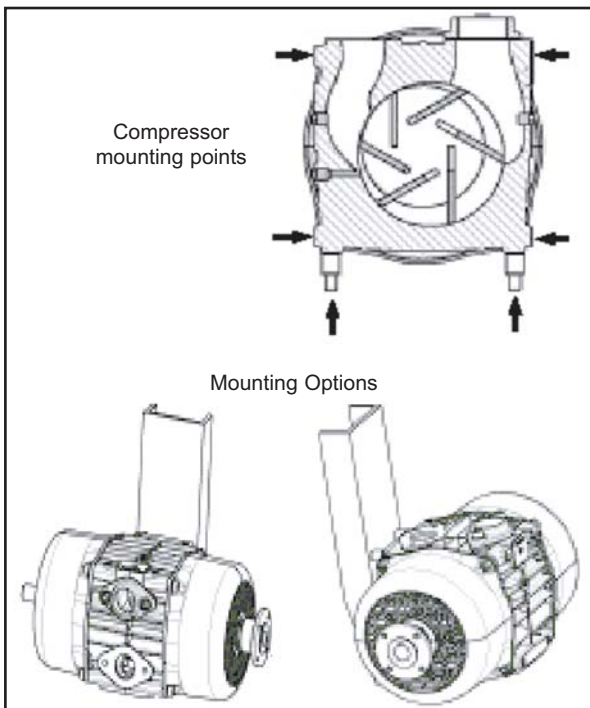

Figure 1 - Mounting
1. The E-106 compressor has mounting points on both sides of the body, as well as the base. The compressor can be mounted using the studs and spacers provided. See Figure 1. In addition to the standard mounting bracket, MOUVEX can supply brackets to suit existing installations currently using other makes of compressors.